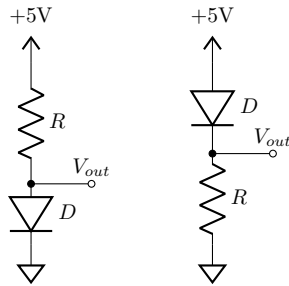

Figure 12: Diode measurement setup using 2 circuits. These circuits should act identically in operation.
Regardless of the method that you choose to perform this experiment, explain why these approaches are necessary. For example, why would we bother making two “identical” circuits as shown in Figure 12?
Note: The below steps are written in reference to the “normal” version of the lab using the two identical circuits in Figure 12. If you decide to use a different method for extra credit, please make sure to adjust accordingly.
2. Adjust the supply voltage until the desired current is observed, or until the diode “turns on”. **Important!** If you are measuring both circuits in Figure 12 at the same time, you will be drawing double the current from the source. The current going through one diode will be HALF of the supplied current shown on the PSU. Don’t overload your diodes!